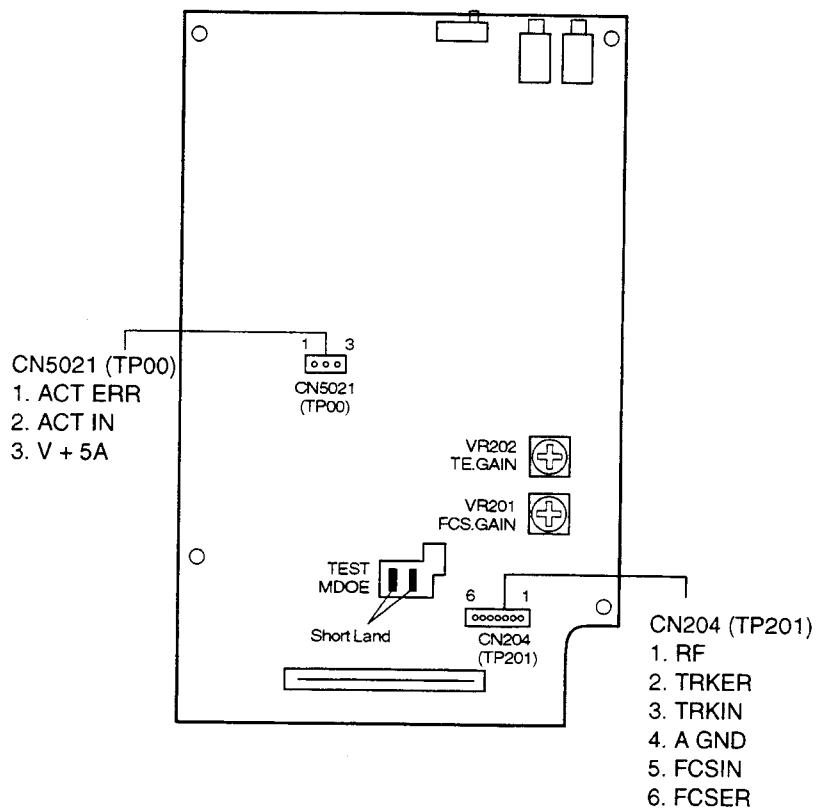

Fig. 1 SERVO UCOM BOARD ASSY
2. Short the test mode short land. (See Fig. 1.)